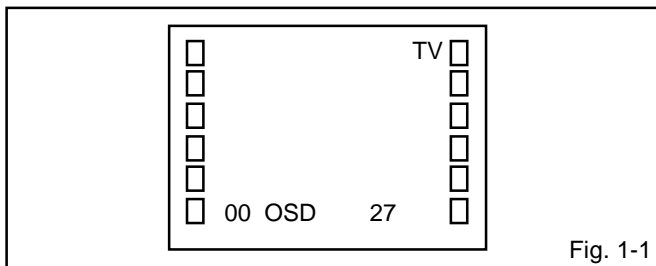

Fig. 1-1
Press the VOL. DOWN button on the set and the Channel button **(9)** on the remote control for more than 1 second to appear the adjustment mode on the screen as shown in **Fig. 1-1**.
2. Activate the adjustment mode display of **Fig. 1-1** and press the channel button **(01)** on the remote control to select "CUT OFF".
4. Activate the adjustment mode display of **Fig. 1-1** and press the channel button **(12)** on the remote control to select "R. BIAS".
3. Activate the adjustment mode display of **Fig. 1-1** and press the channel button **(03)** on the remote control to select "H. PHAS".
3. Activate the adjustment mode display of **Fig. 1-1** and press the channel button **(06)** on the remote control to select "H. SIZE".